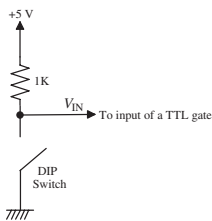

FIGURE 1.13 A typical circuit for connecting an input to a TTL gate.
**A Typical Switch Input Circuit for TTL** Figure 1.13 shows a switch circuit that can be used as a single bit into the input of a TTL gate. When the DIP switch is open,  $V_{IN}$  is HIGH. On the other hand, when the switch is closed,  $V_{IN}$  is low.  $V_{IN}$  can be used as an input bit to a TTL logic gate for performing laboratory experiments.